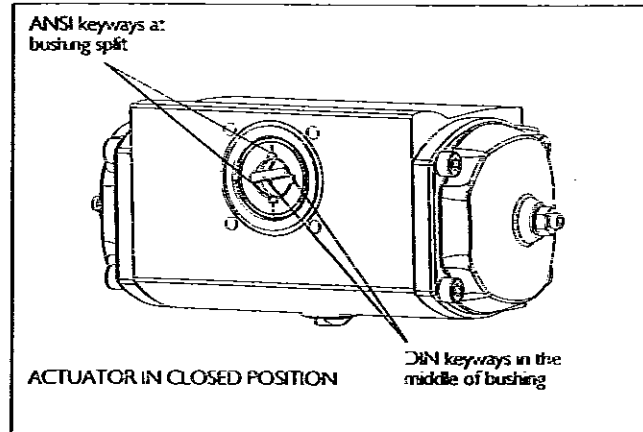

Fig. 20. Keyway positions on the actuator
- Prior to installation, the correct shaft position of the valve has to be checked. In the key-type bushing there are four keyways, two of which are intended for valves with DIN key and two for valve shafts with ANSI key (for example M1 and M2 valves). The DIN keyway is located in the middle of the half bushing, and the ANSI keyway is located in the split between the bushing halves. Fig. 20 shows the keyway position when the actuator is in a closed position.